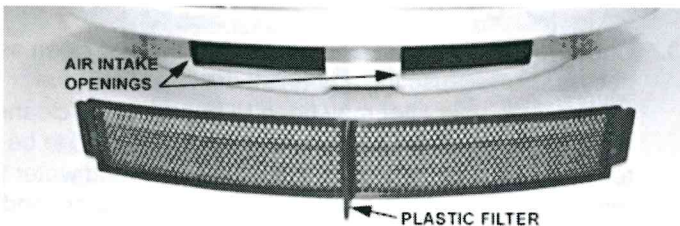

Figure 2
2. If your installation has the snap-in style filter shown in Figure 2, remove and set it aside.